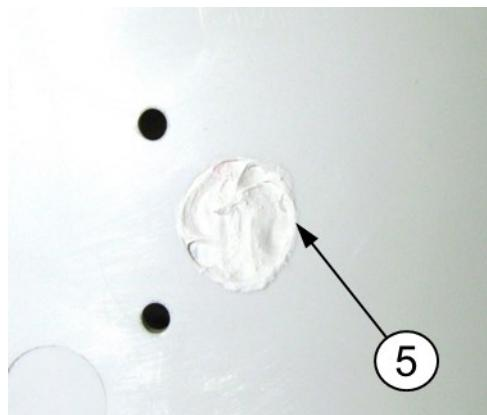

Fig. 64 The amount of the thermoconductive paste on the battery controller
1. Apply a little of the **TB-8** thermoconductive paste in the **Battery controller recess (5)** as shown in **Fig. 64**.